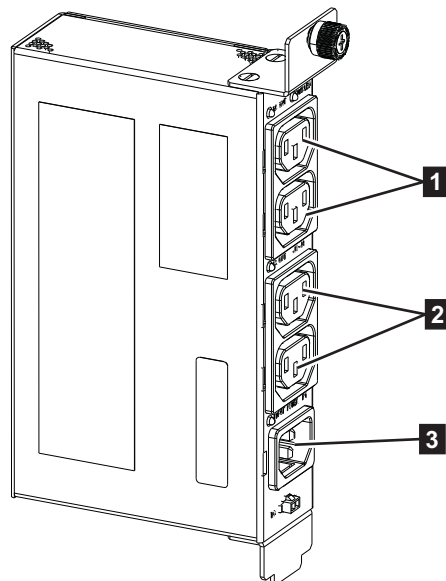

Figure 23. IMC PDU receptacles
If the library is a single Lx5 base frame, the customer power is connected to the input receptacle (**3** in Figure 23) on the IMC PDU. This supplies power to the IMC monitor and Tiny PC (through the connections **1**). A short power cord connects from one of the middle receptacles (**2**) to the power supply located in the right side of the card cage. Redundant power is provided to the frame with a power cord connected from a customer outlet on a separate circuit to the second card cage power supply.
- ___ 17. Plug one power cord into the lower (input power) receptacle in the IMC PDU. (See **3** in Figure 23 on page 39).